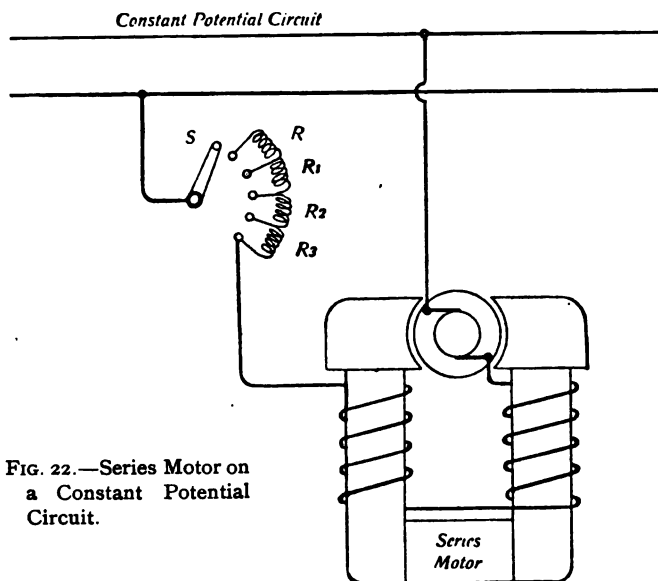

FIG. 22.—Series Motor on a Constant Potential Circuit.
*Fig. 22* illustrates the connections. This motor on a constant